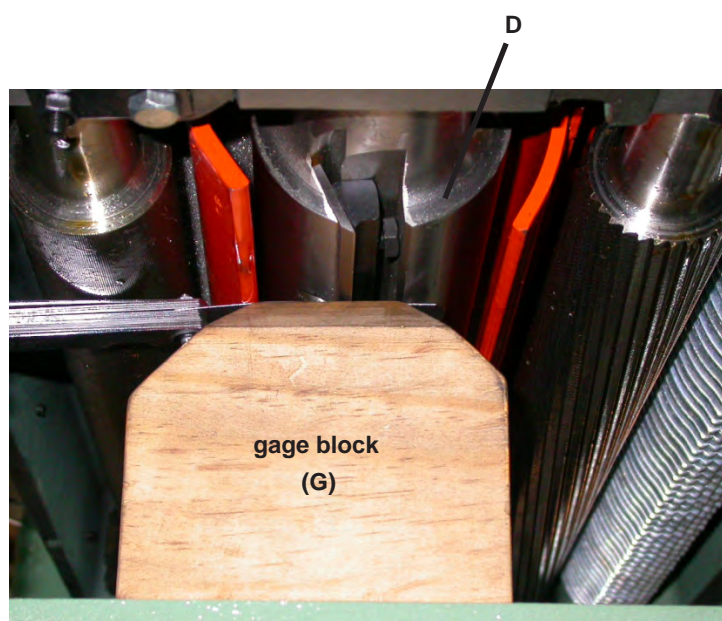

Fig 31
3. Place the gage block (G) on the table directly underneath the cutterhead, as shown in Fig. 31. Using a 0.02" (0.5mm) feeler gage (H) Fig. 31, placed on top of the gage block, raise the working table until the knife just touches the teeter gage when the knife is at its lowest point. Do not move the working table any further until the outfeed roller is adjusted.